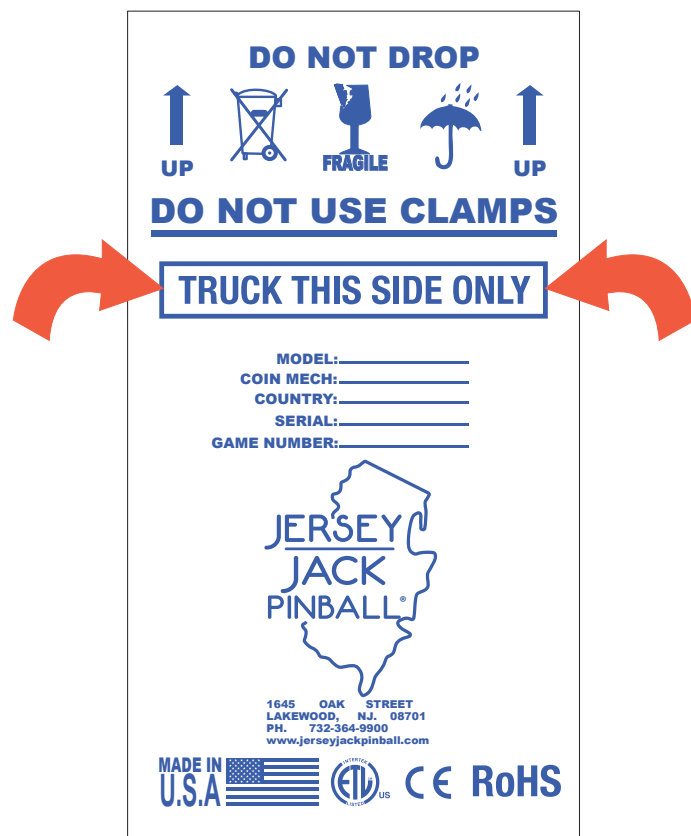
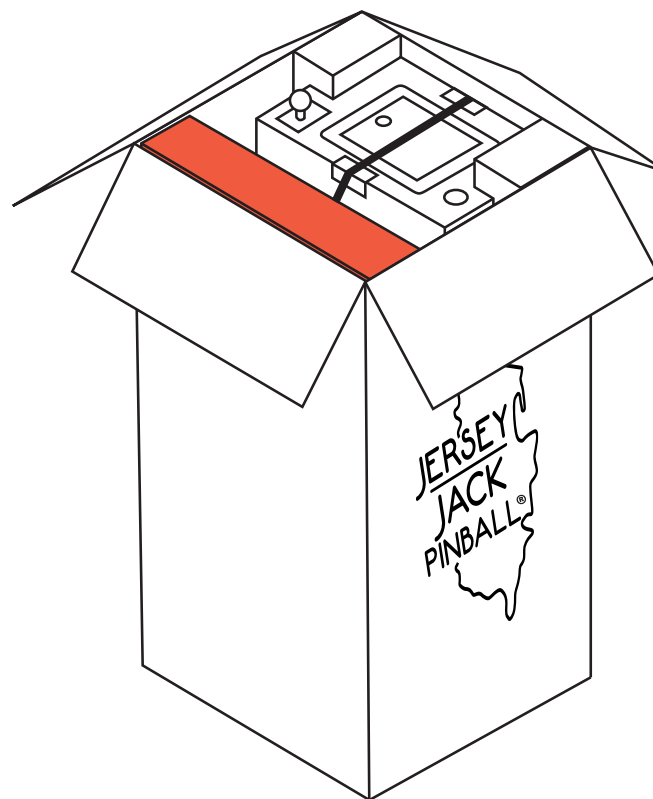

Figure 1. The “TRUCK THIS SIDE ONLY” side of the box.
Figure 2. Opening the shipping carton.
1) Using wire cutters, remove all shipping bands from the outside of the carton, noting the side with the “TRUCK THIS SIDE ONLY” marking (see figure 1). With a utility knife and needle-nose pliers, carefully cut the tape and remove all staples along the seams of the carton’s top flaps, then fold them open (see figure 2). Remove the large, flat sheet of cardboard. Pull out the large parts box (red in figure 2) and remove its contents. Check all loose parts against the packing list on this page.